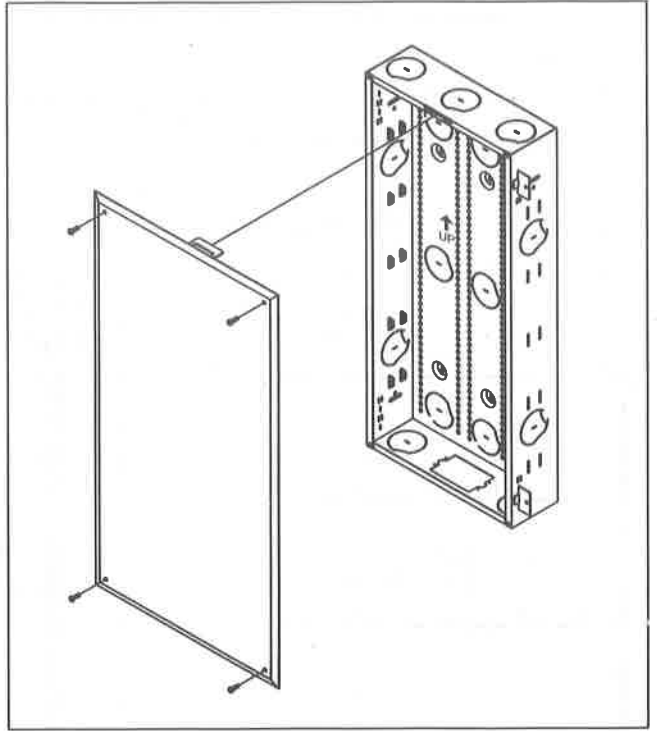

Fig. 4
**Installing the cover: (see Fig. 4)**